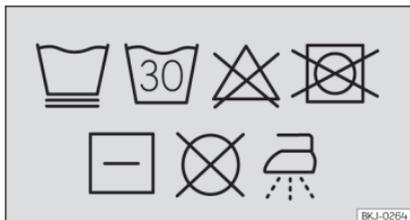

Fig. 125 Label on the covers: washing instructions symbols
- **Washing instructions for removable covers »» Fig. 125:**